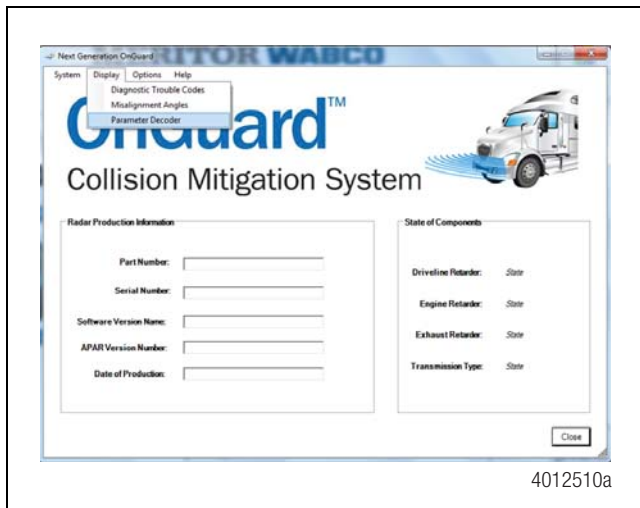

Figure 2.15
1. To display Parameter Decoder information, from the “Display” menu, select “Parameter Decoder”. Figure 2.15.